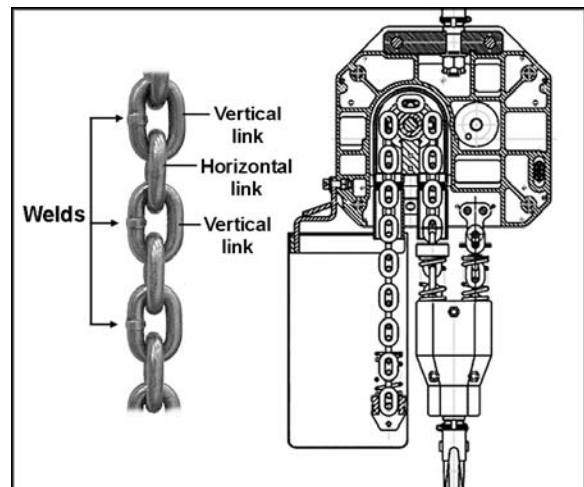

Figure 15
7. Check that the chain is not twisted at the bottom hook. All welds should face the same direction (see Figure 15). For hoists with two or more falls of chain, make sure the bottom hook is not turned over. This may cause the chain to twist.
4. Using a C-link, connect the new chain to the old chain. Be sure vertical link welds face away from load sprocket (see Figure 15).
Vertical and horizontal are determined from the relationship with the load sprocket. Vertical links will be guided by the center slit in the load sprocket. Horizontal links will engage in the oval pockets on the sprocket. See Figure 15.